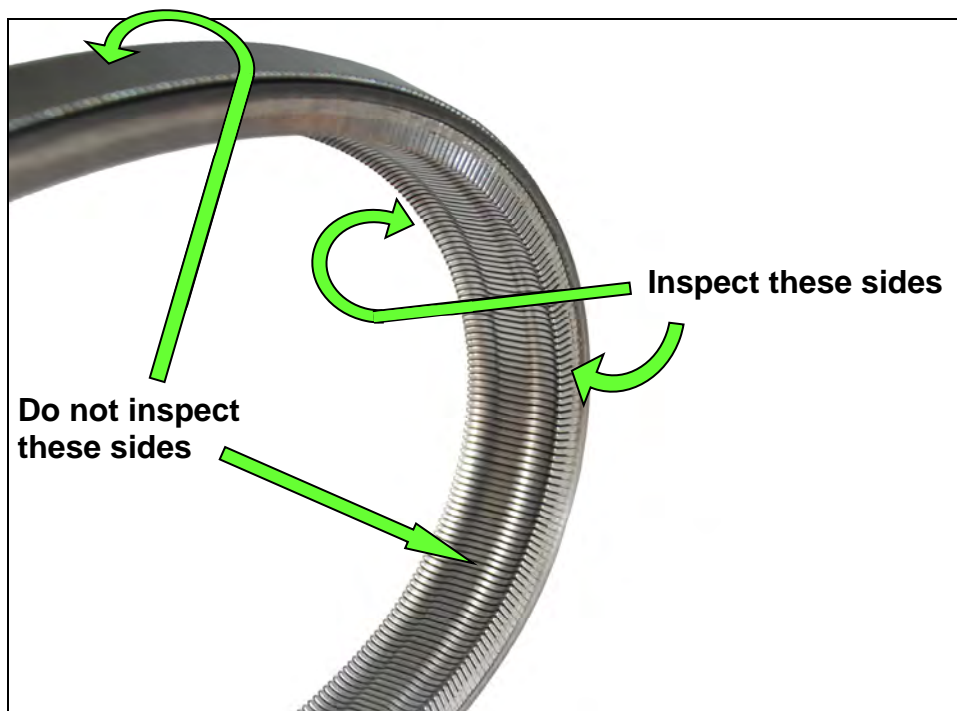

Figure 15
4. Using borescope J-51951 with mirror attachment, inspect the entirety of the two sides of the belt that come in contact with the pulleys (see page 14, Figure 15). Reference the pictures on pages 14-18 for comparison.